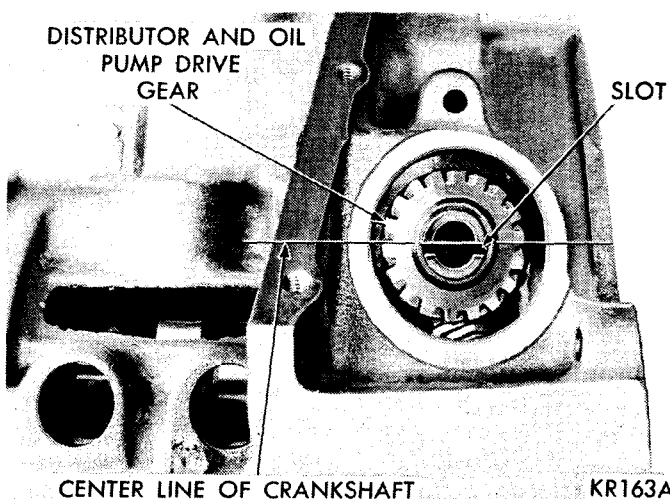

Fig. 29—Distributor Drive Gear Installed
(1) Rotate crankshaft until NO. 1 cylinder is at top dead center on the firing stroke.
(2) When in this position, the straight line on the vibration damper should be under "O" on timing indicator.
(3) Coat shaft and drive gear with engine oil. Install the shaft so that after gear spirals into place, it will index with the oil pump shaft, so slot in top of drive gear will be parallel with center line of crankshaft (Fig. 29).